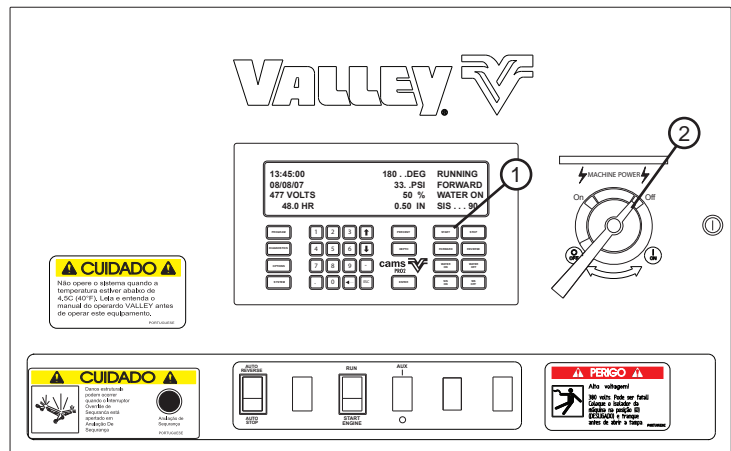

Figure 25-2 1. Stop Key
1. Press the STOP key. See figure 25-2.
2. Turn the main disconnect switch to the OFF position. See figure 25-2.